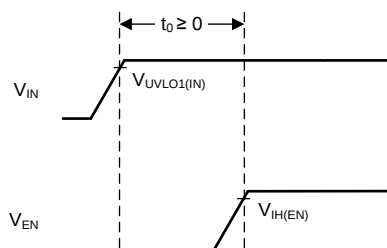

Figure 46. Sequencing Diagram
- V_{BIAS} and V_{IN} can be sequenced in any order, as long as V_{EN} is tied to V_{IN} or established after V_{IN} , as shown in Figure 46